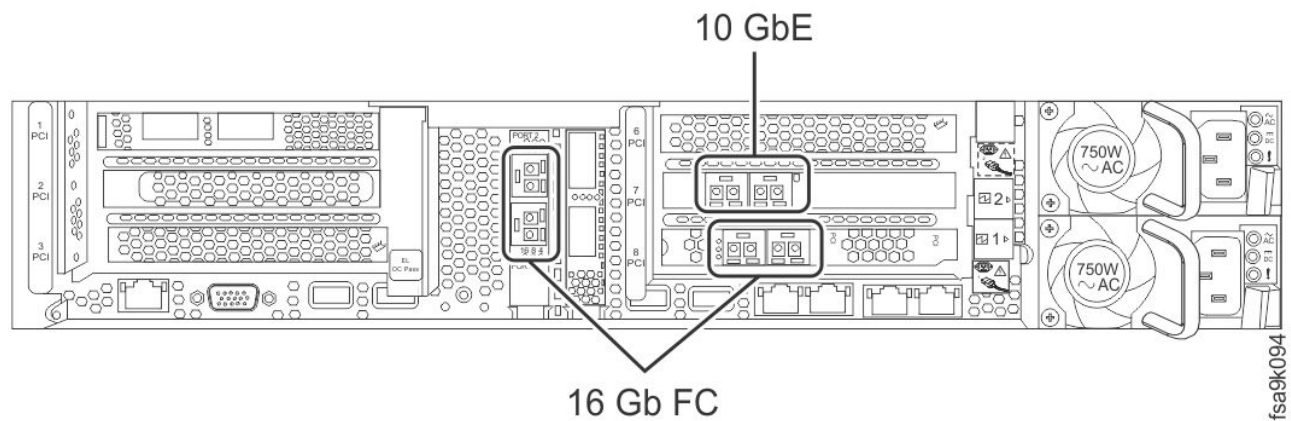
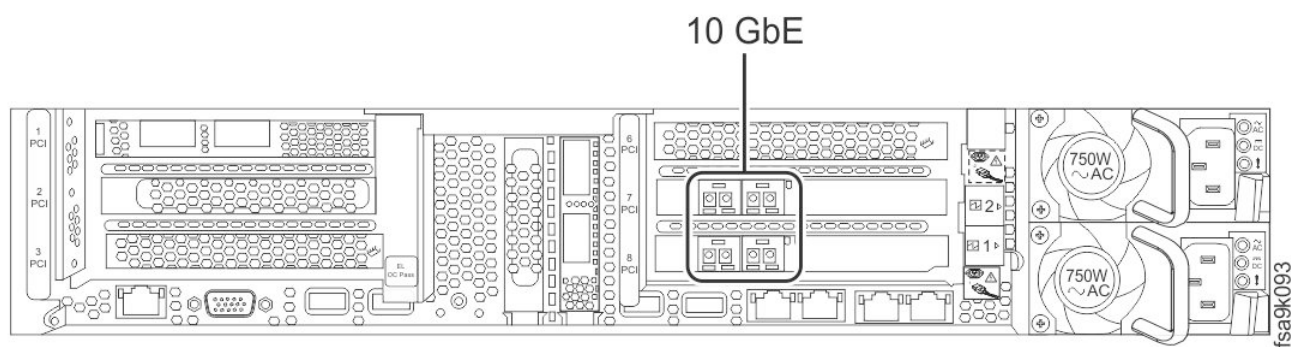

Figure 6. Rear of a grid controller with FC configuration
Figure 7. Rear of a grid controller with 10 Gb Ethernet configuration
An IBM FlashSystem A9000 unit contains three (3) grid controllers. Figure 5 on page 13 illustrates the front of the grid controller. Figure 6 on page 14 and Figure 7 on page 14 illustrate the two rear options for the grid controller.